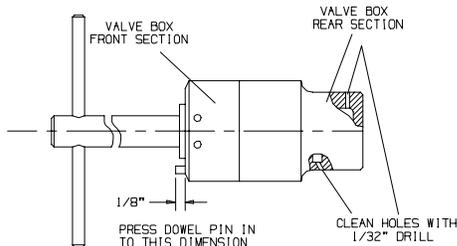

Figure 4
- f. Slide the rear section of the Valve Box over the Valve and assemble it on the front section as shown in Figure 4. Lap the Valve until it fits freely in the assembled Valve Box.
3. Apply 6 or 8 drops of light oil to the external surface of the Valve and assemble it with the Dowel Pin (19) in the Valve Box. Shake the assembly to see that the Valve moves freely in the Valve Box.